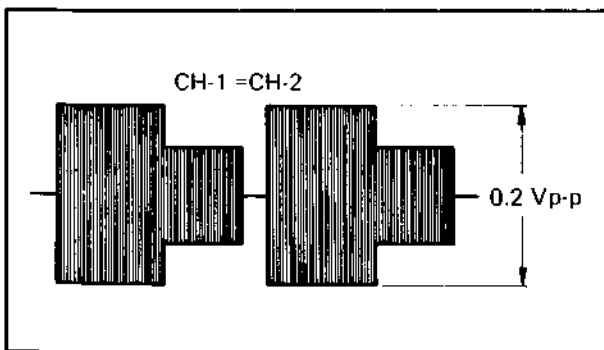

Fig. 6-39 Color level
4. Adjust R2 (COLOR LEVEL) on the record amplifier circuit during Record mode, then play back it, so that the level of TP-202 is 0.2 ± 0.05 Vp-p as shown in Fig. 6-39.